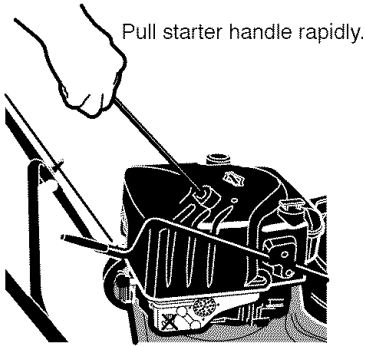

Figure 7
5. Slowly pull the **recoil starter handle** until resistance is felt and then pull rapidly to start the engine (See Figure 7). Do not allow the **recoil starter handle** to snap back. Slowly return the **recoil starter handle**.